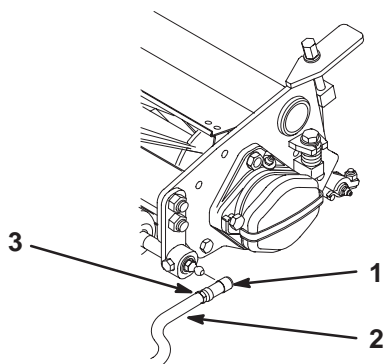

Figure 13
- Align the sockets in the ball joints so the open side of the socket is centered towards the ball stud. Tighten the jam nuts to secure the sockets in position (Fig. 13).